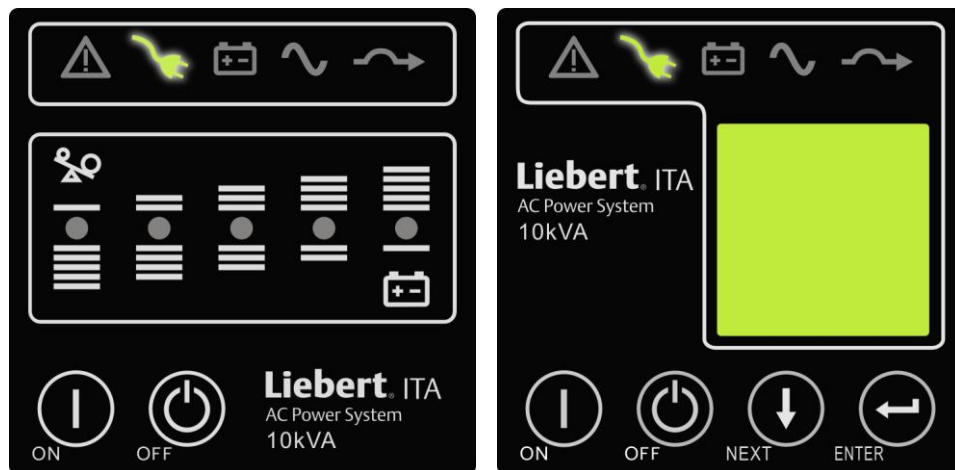

Figure 2-30 Indicator status
2. Power on the UPS to enter the UPS self-test status (including the battery self-test), all the LED indicators blink, and the buzzer beeps at intervals. After the self-test is finished, the UPS enters the standby mode, and the mains indicator turns on, as shown in Figure 2-30.